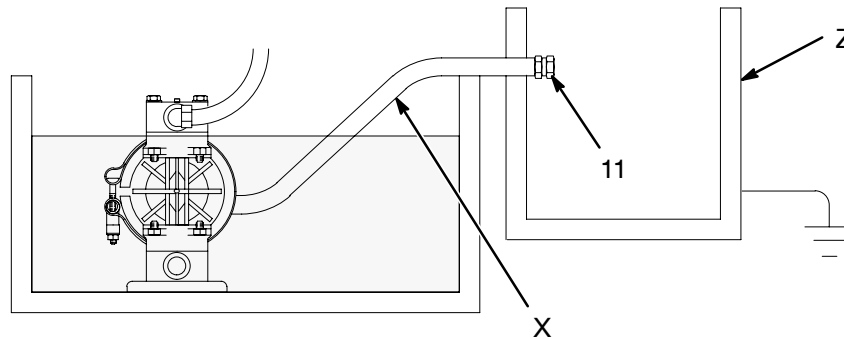

Fig. 3
Diaphragm failure will cause the fluid being pumped to exhaust with the air. Place an appropriate container at the end of the air exhaust line to catch the fluid. See Fig. 3.
2. Install an electrically conductive air exhaust hose (X) and connect the muffler to the other end of the hose. The minimum size for the air exhaust hose is 3/8 in. (10 mm) ID. If a hose longer than 15 ft (4.57 m) is required, use a larger diameter hose. Avoid sharp bends or kinks in the hose.
3. Place a container (Z) at the end of the air exhaust line to catch fluid in case a diaphragm ruptures. If the fluid is flammable, ground the container. See Fig. 3.